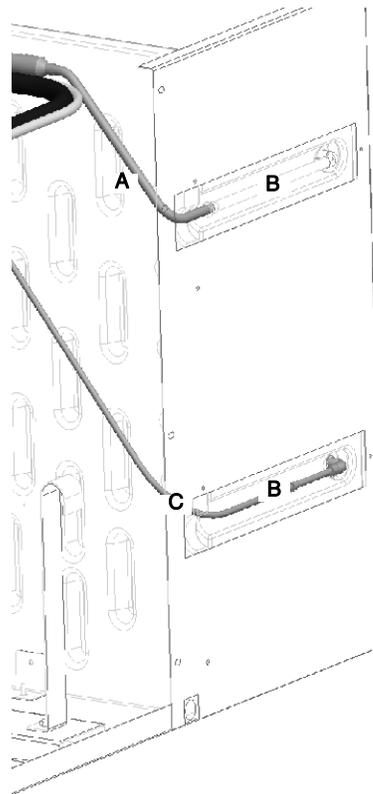

Figure 24.
23. At the rear of the unit, remove the suction line (A) and the liquid line (C) from the left evaporator. Do not remove the line extensions (B) (FIGURE 24).